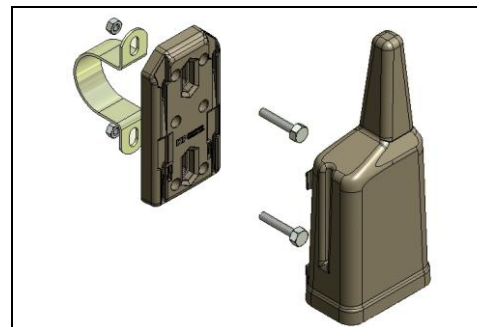

Figure 3: On-pipe Mounting
1. Fasten the mounting bracket on the pipe with two screws and the “Omega” bracket (See figure 3)